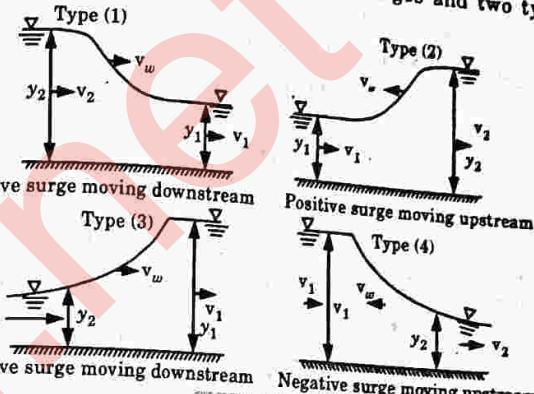

Fig. 3.17.1.
5. Fig. 3.17.1 shows two types of positive surges and two types of negative surges.